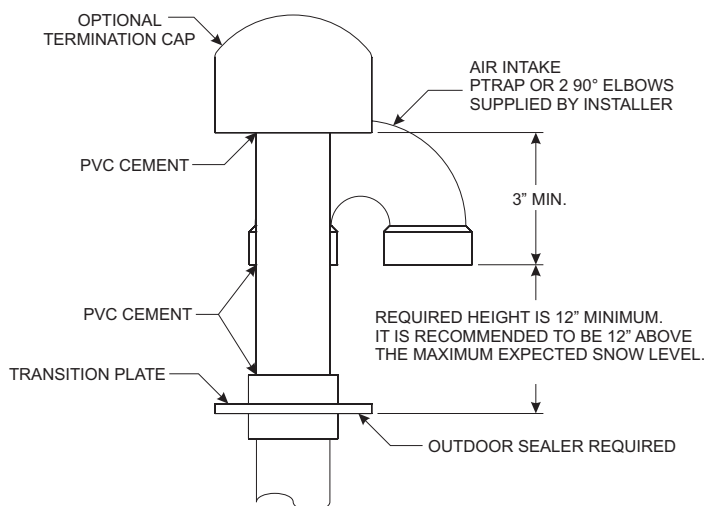

Figure 12
1. Attach the plate to chimney chase, flat roof, or outside wall with four (4) screws. Use outdoor sealant to seal the transition plate to the surface.
2. Both inlet air pipe and flue exhaust pipe must be 12 inches from the roof line, and it is recommended to be 12 inches above the maximum snow line. Also refer to local codes. See Figures 12 and 13.